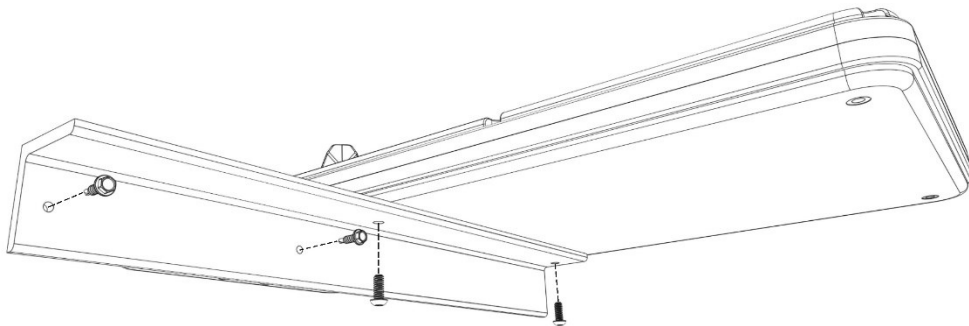

Figure 7-3: Mounting ARES to a purlin or rail using the Purlin Bracket Kit
2. Mount the ARES device using the 1/4-20 button head screws to the bracket at approximately 10 in-lbs torque. See Figure 7-3.